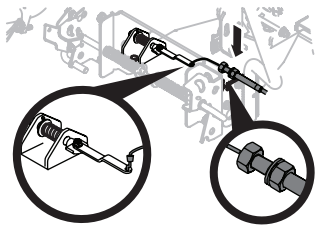

Figure 11
- Attach end of plow lift cable lever by inserting z-bend of cable into hole located on lock pin and rotating z-bend. See Figure 11.
- Slide top nut and washer up and into mounting slot located on lift handle assembly (689-02499). See Figure 11.